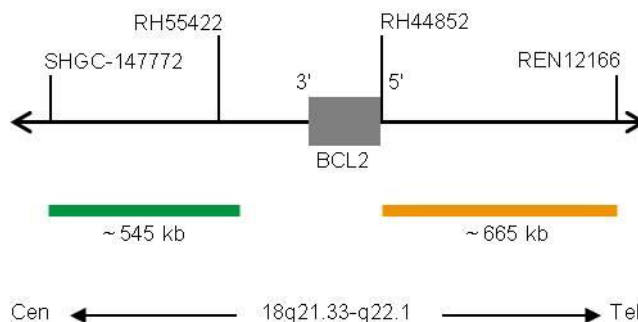

Fig. 1: BCL2 Probe map (not to scale)
- ZyGreen (excitation 503 nm/emission 528 nm) labeled polynucleotides (~6.0 ng/μl), which target sequences mapping in 18q21.33* (chr18:60,046,152-60,589,273) proximal to the BCL2 breakpoint region (see Fig. 1).
- ZyOrange (excitation 547 nm/emission 572 nm) labeled polynucleotides (~2.5 ng/μl), which target sequences mapping in 18q21.33-q22.1* (chr18:60,994,528-61,658,503) distal to the BCL2 breakpoint region (see Fig. 1).